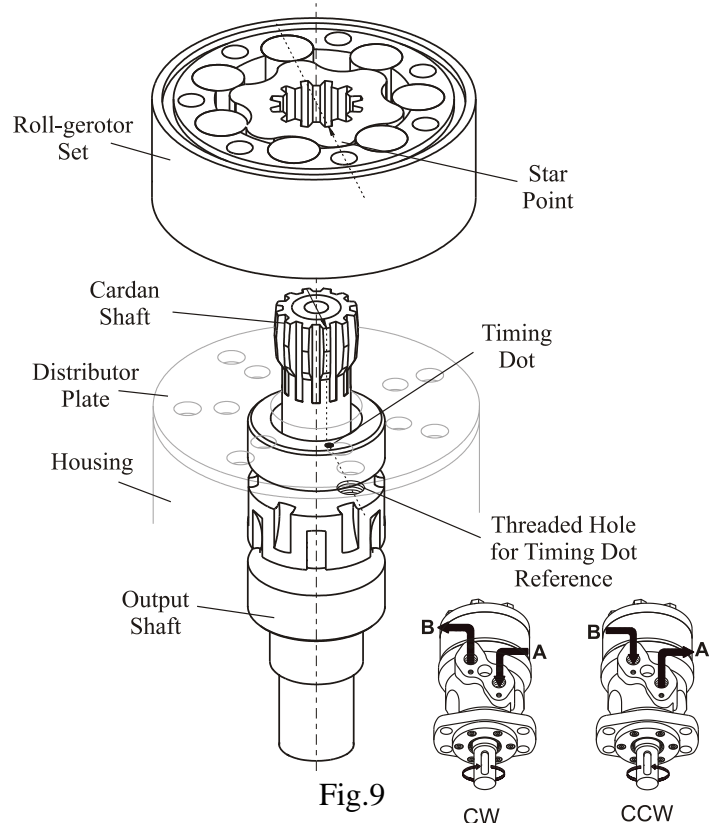

Fig.9
18. Place roll-gerotor set on spacer plate positioning any star point over the bolt hole aligned with the timing dot. Stepped bolt holes are facing with smallest diameter to the distributor plate (see Fig 9).